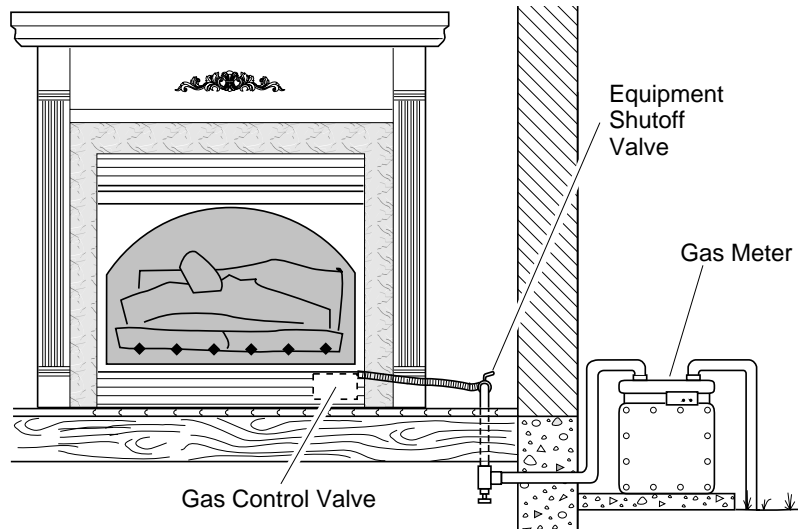

Figure 22 - Checking Gas Joints
3. Check all joints from gas meter to equipment shutoff valve (see Figure 22). Apply mixture of liquid soap and water to gas joints. Bubbles forming show a leak.
4. Check all joints from equipment shutoff valve to the gas control valve (see Figure 22). Apply mixture of liquid soap and water to gas joints. Bubbles forming show a leak.